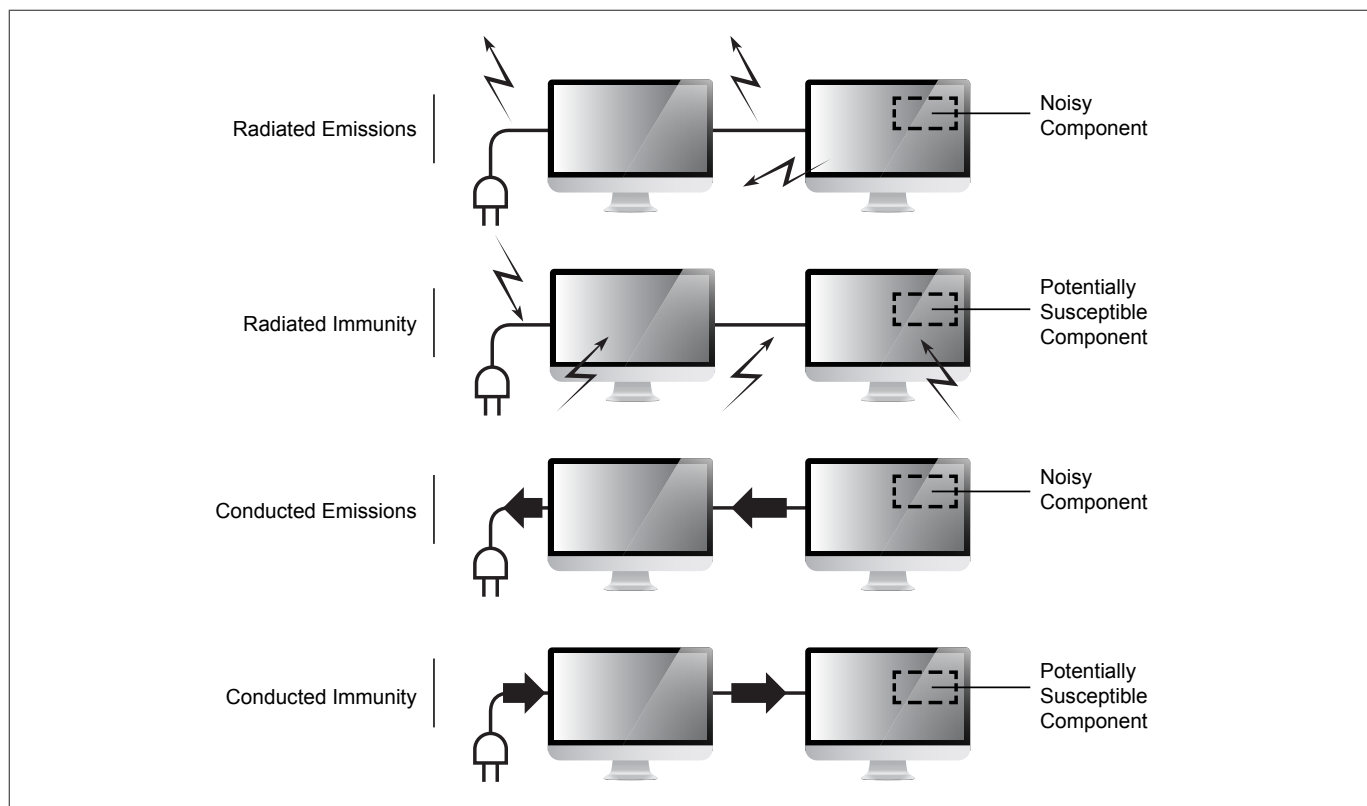

Figure 1. Noise Paths.
A power line or mains EMI filter is placed at the power entry point of the equipment it is being installed in to prevent EM noise from exiting or entering the equipment. Refer to *Figure 1* to see how the AC mains power cable (on the left side of the diagrams) is a common element in the potential path for the device's electromagnetic emission and immunity paths.
The measure of a filter's ability to reduce a given signal level is insertion loss or attenuation. Filters are not only for conducted emissions, but also help in meeting radiated emissions levels and also helps in immunity issues and fast transients like electrical fast transients (EFT) as shown in the previous *Figure 1*. In all circuits, both common-mode (CM) and differential-mode (DM) currents are present. There is a difference between the two types of noise and filtering configuration. Given a pair of transmission lines and a return path, one or the other mode will exist, usually both.